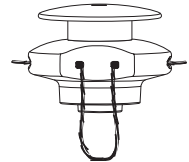

Fig. 18
2. Push the ends through until they stick out of the sides of the head (Fig. 18).